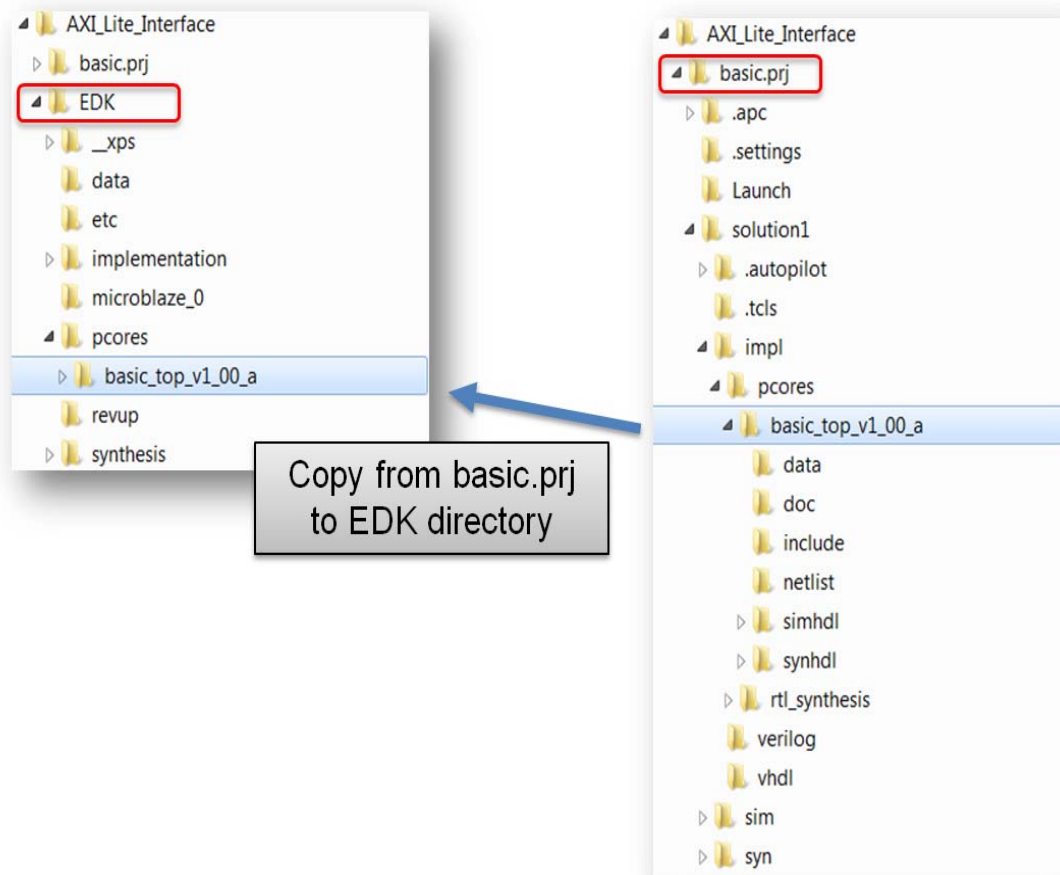

Figure 1-8: XPS and AutoESL Directory Structures
1. Copy generated PCORE from AutoESL directory structure to XPS directory structure, as shown in Figure 1-8.